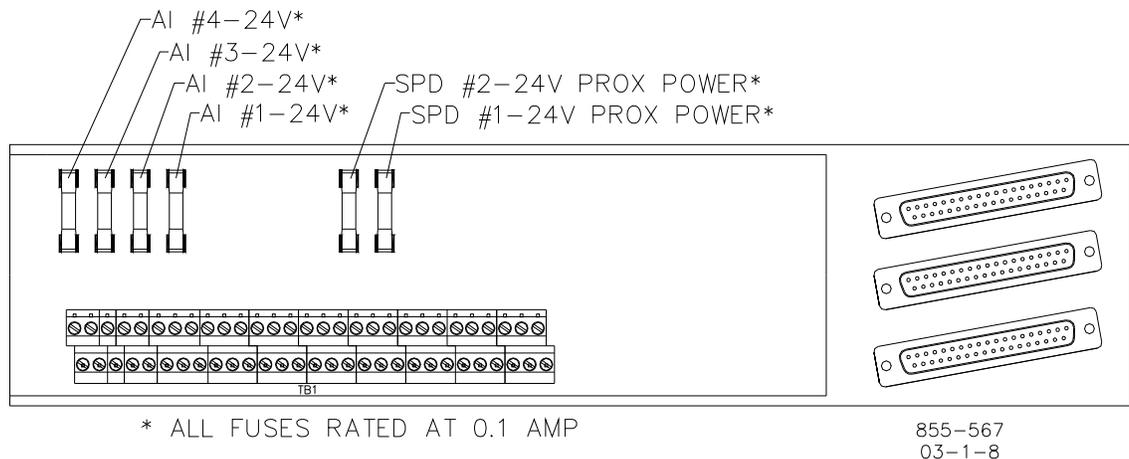

Figure 5-1. ATM Fuse Locations
4. Locate and replace fuse (See Figure 5-1) with one of the same size and rating (24 Vdc/0.1 A).